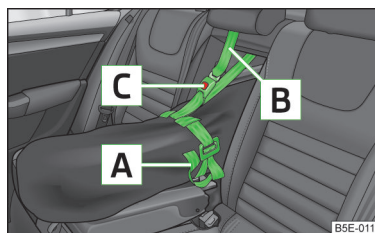

Fig. 78
- Tighten the strap **A** on the free end around the skis in front of the bindings » Fig. 78.
- After placing skis into the through-loading bag, you must secure the bag with the securing strap **B** » Fig. 78.